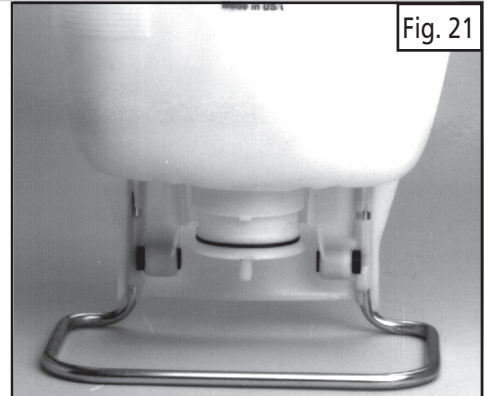

Fig. 21
- 1) With the large clamp at the bottom of the tank removed, the pressure cylinder will push out through the bottom of the tank. (See Figure 21).
- 2) Once the pump cylinder is removed, the large o-ring (A) can be replaced. (See Figure 21). Note: The new o-ring should be slid onto the pressure cylinder from the top to the recess. It should not be stretched over the flange at the bottom.